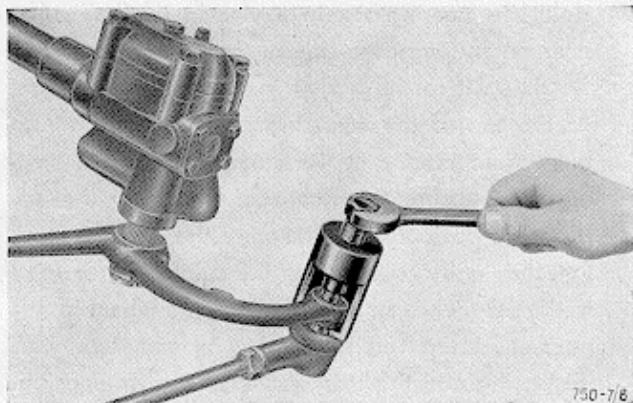

Fig. 8 - Removing a ball joint, using tool No. 6121.12.086
- 9) Remove the actuating lever ball joint by means of tool No. 6121.12.086 (Fig. 8).